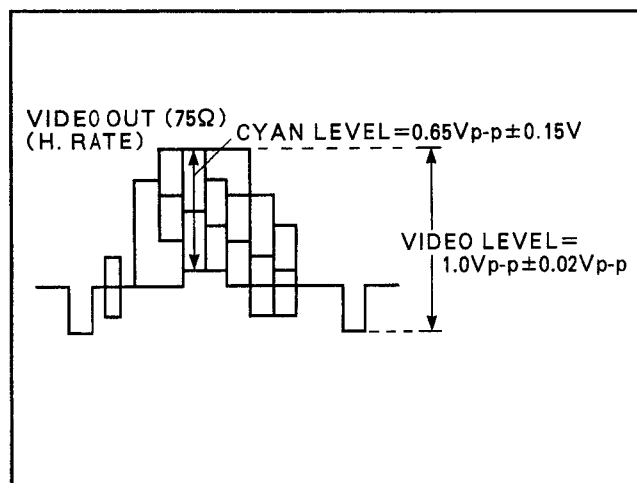

Figure E6
3. Adjust VR3305 so that the Y level becomes $1.0 \pm 0.02\text{Vp-p}$ as shown in Figure E6.